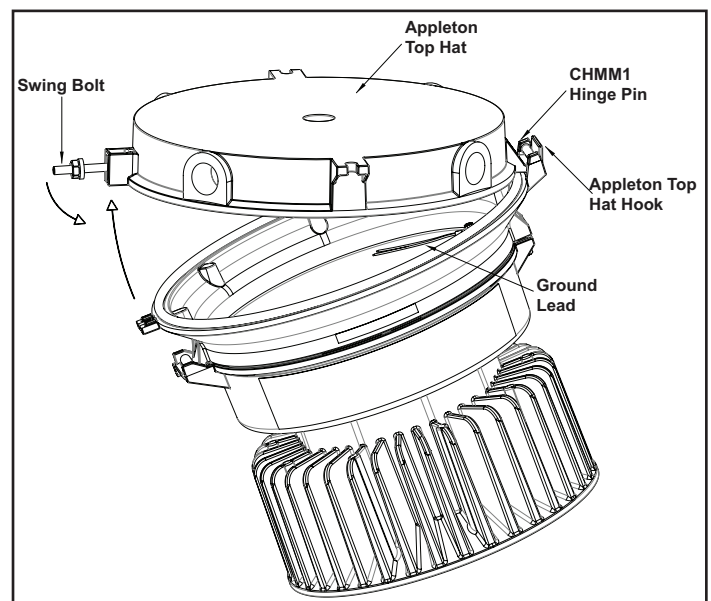

Figure 2
6. Hang the assembled luminaire and adapter from the Appleton top hat by capturing the adapter hinge pin in the Appleton top hat hook, as shown in Figure 2.